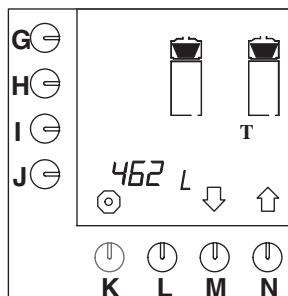

Fig. 19 Total counter coffee-making system
- The total counter appears on the display. The total number of litres of coffee that have been made during the lifetime of the machine can be read from the display (fig. 19).